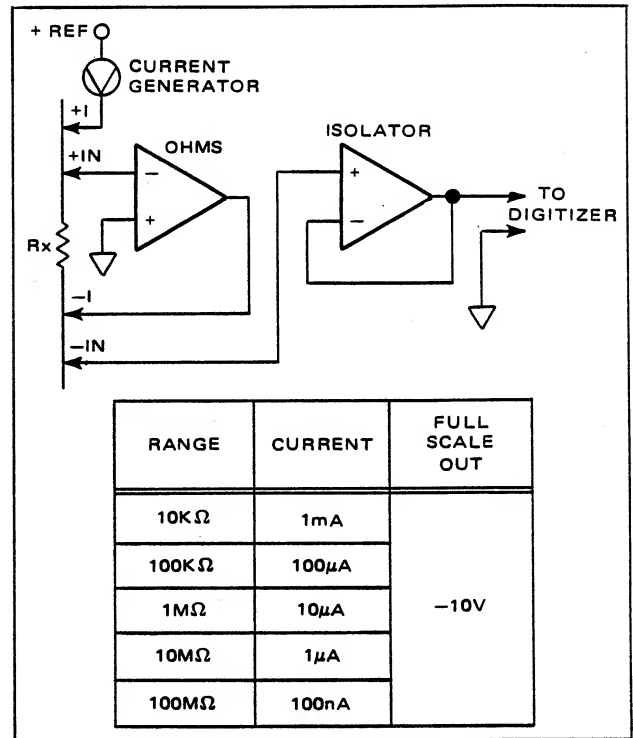

Figure 5.9 - 10K Ω - 100M Ω Ranges
5.3.4.5.2 The circuit configuration is dependent upon the range selected and may take one of three forms. Figures 5.9 - 5.11 show simplified block diagrams of these configurations. In each of the configurations, a current reference is applied to the resistance being measured. This resistance is connected as the feedback path for the Ohms amplifier and the current through this resistance will equal the current provided by the current reference. The output of the Ohms amplifier is a negative DC voltage proportional to the resistance being measured.
5.3.4.5.3 **10K Ω - 100M Ω Ranges.** As shown in Figure 5.9, the output of the Ohms Amplifier is applied to the positive input of the Isolator. The Isolator has a closed loop gain of 1.0 in these ranges, and serves as a buffer between the Ohms amplifier and the Digitizer. The full scale output of the Ohms Amplifier and Isolator is -10 volts.